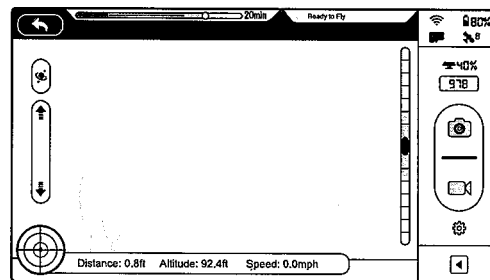

Figure 47
- (5) Tap the "CAMERA" icon and the DJI VISION App will begin a live camera preview (Figure47). This means everything is functioning normally.